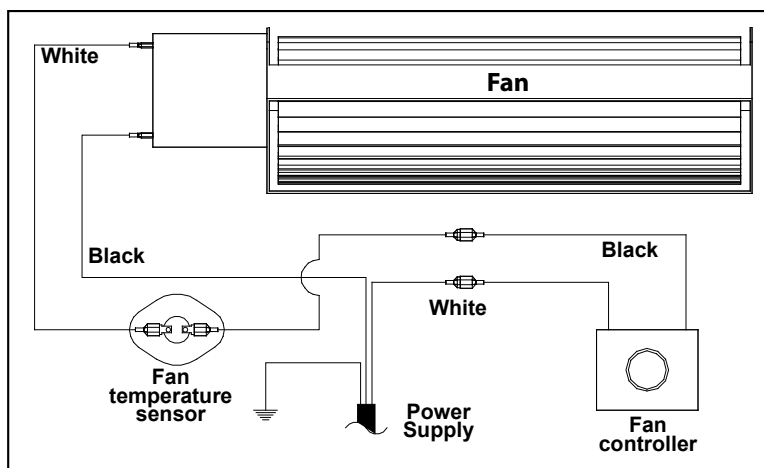

Figure 46. Wiring Diagram For Fan Control.
3. Open the gas valve cover. Carefully cut the decal portion on the control panel and install the fan control switch in this location. See Figure 46 for wiring of optional blower.